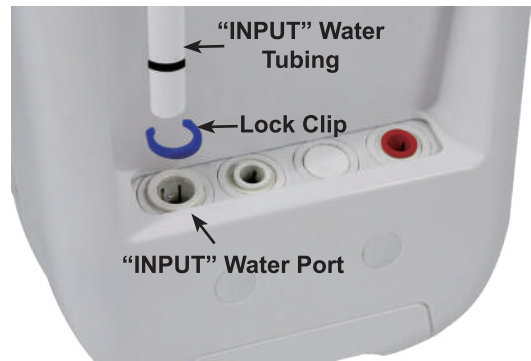

Figure 12
- Insert the other end of the tubing into the "INPUT" water port (Figure 12), and pop the lock clip on the fitting.